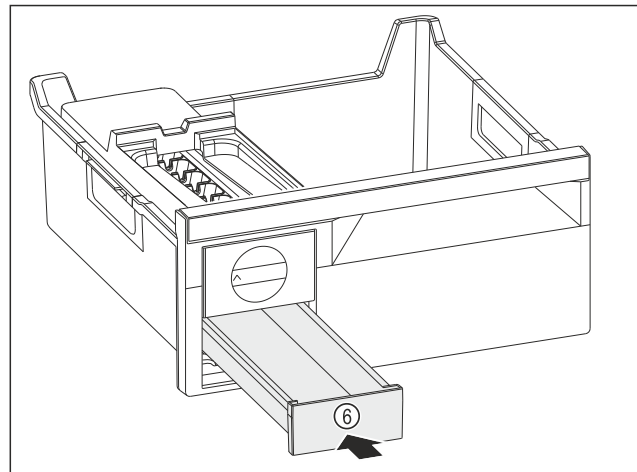

Fig. 126
- ▶ Insert the ice cube drawer Fig. 126 (6).